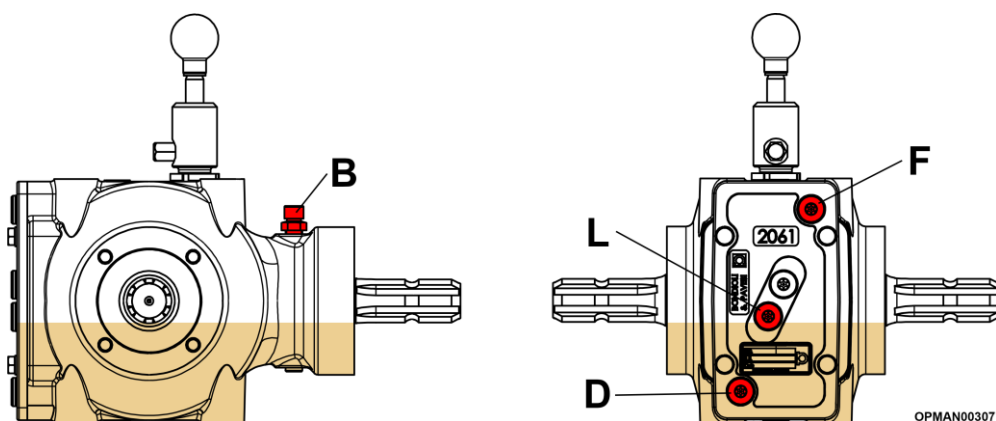

Figure 5.2 – Trident Gearbox
To drain the oil, each of the gearboxes is fitted with a **drain plug**. The location of the drain plug is given in Figure 5.2 (D). If there are facilities to vacuum draw the oil out of the respective gearbox, the oil can be changed through the fill hole/dipstick location instead; see Figure 5.2 (F).
The gearbox should not require additional lubricant unless the box is cracked, or a seal is leaking. It is recommended that the oil level is **checked every day before operation**. Additional or filling with new oil should be added through the **fill hole with the level plug removed**; see Figure 5.2 (L). Keep filling until oil escapes out of the level hole, **before proceeding to use the machine**. There are two holes at the centre of the gearbox. The level plug is always the lower of the two plugs. Replace and tighten all plugs before using the machine.